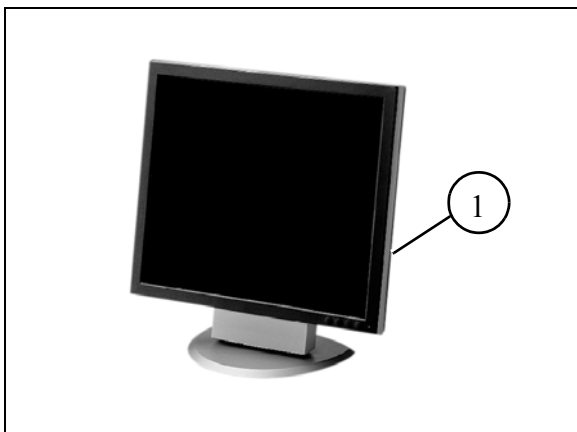

Fig. 2 19" syngo display
- Plastic parts of the 19" syngo display (1/Fig. 2):